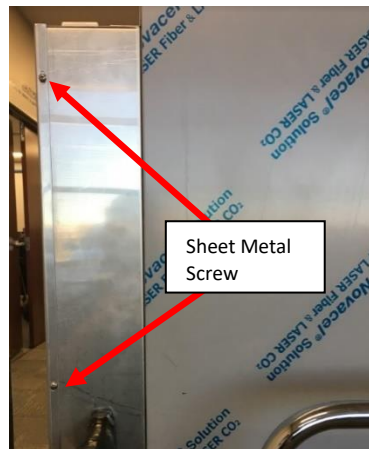

Figure L2: Rear Enclosure Cover secured in place using Sheet Metal Screw on either side.
2. Remove the Rear Enclosure Cover. There will be two (2) screws on either side holding it in place. See Figure L2.